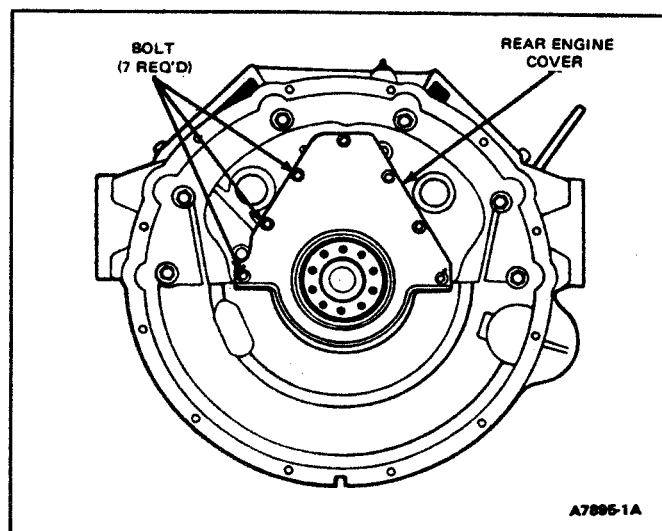

FIG. 38 Rear Engine Cover Removal
4. Remove bolts attaching rear engine cover to engine block and remove rear cover (Fig. 38).